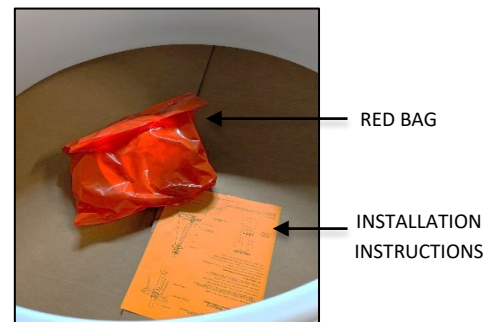

FIG.3 RED BAG AND
2. INSTALLATION INSTRUCTIONS (shown in FIG. 3) - Please completely read the install instructions before starting installation.
3. RED BAG (shown in FIG. 3) contains below following items: